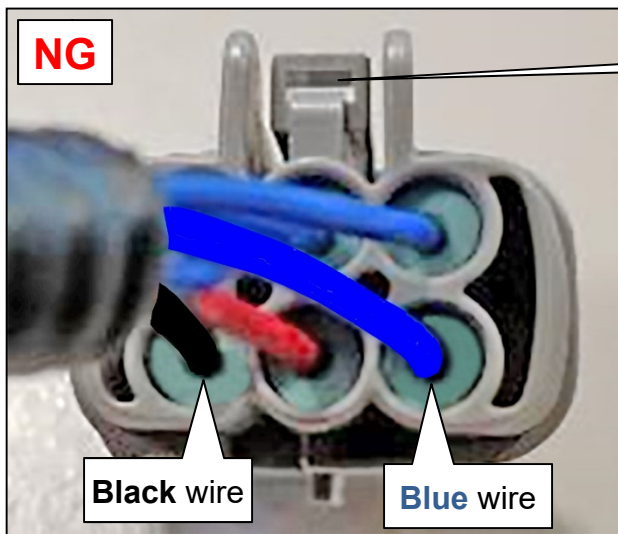
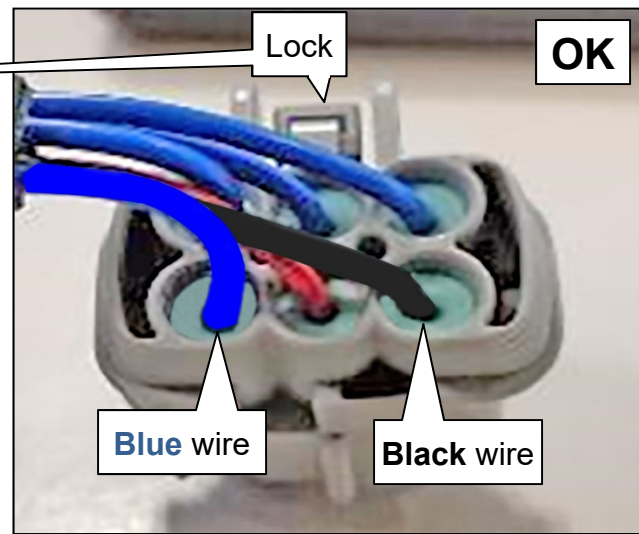

Figure 10
Figure 11
13. Remove the terminals of the **blue** and **black** wires from the combination lamp harness connector (see Figure 10 and 11 for selecting the correct **blue** wire).
**NOTE:** The color of the **blue** wire in Figure 10 and Figure 11 is enhanced for easier viewing. Normally, it is the same shade of **blue** as the other **blue** wires.